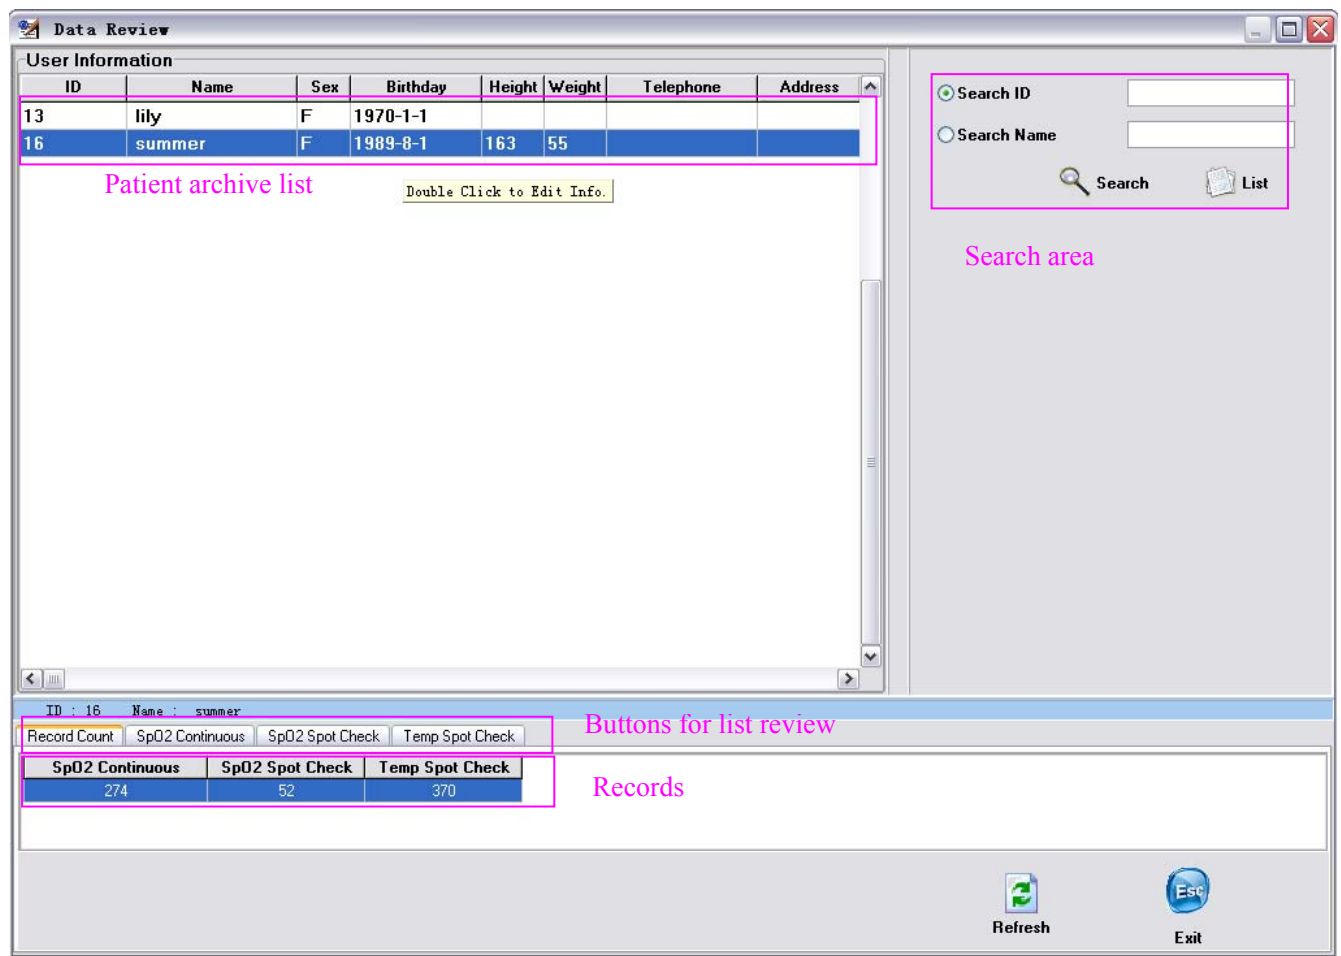

Figure 3-11 Data Review
On main menu window, select “Data Review” to enter into data review screen, as shown in Figure 3-11.
2. There are several buttons for data review: SpO₂ Continuous Record, SpO₂ Spot-check Record and Temperature Spot-check Record. Click one button to enter into the corresponding data review window, and click "Record Count" to return to the screen shown as in figure 3-11.